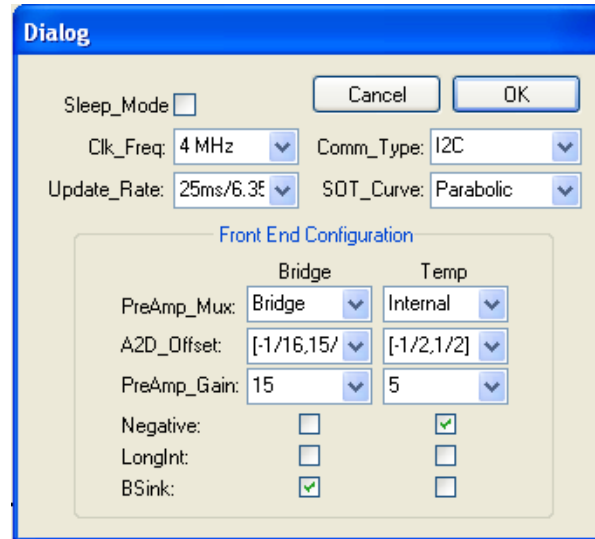

Figure 5-3– Initialization Dialog Window with changed Values (Calibration with SRB)
- 8.) Click on the “Initialize” button, and change the default settings to the settings shown Figure 5-3 and click “OK”. A unique identifier is assigned to this RBic_iLite™ and is written to its EEPROM.